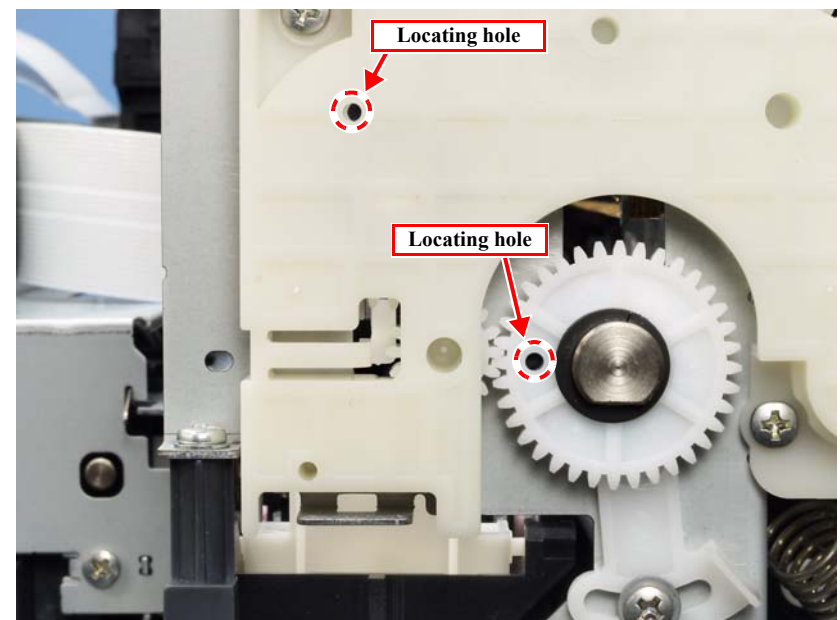

Figure 2-8. PG Position at PG Adjustment
3. Check that the APG Assy and the carriage are in the PG-position. (Fig. 2-8)